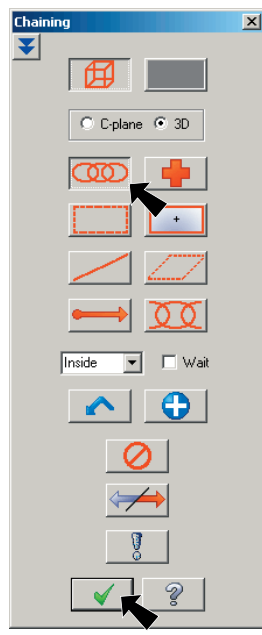

Fig. 11
- Step 4. Click the Chain button  in the Chaining dialog box, **Fig. 11**.
- Step 6. Click the OK button  in the Chaining dialog box, **Fig. 11**.